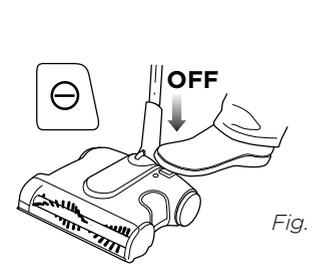

Fig. 2
- 1 Always make sure that the unit is turned off when charging. **(Fig. 2)**